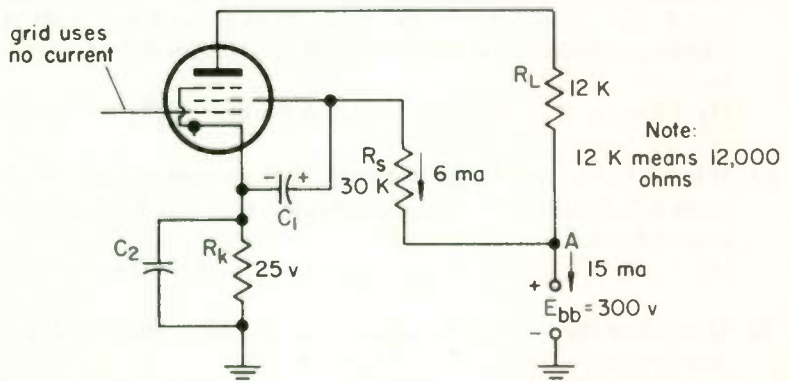

Fig. 46
- (1) that if we start at any point and walk around any path whatsoever until we get back to the starting point, the sum of the voltage rises walked through must equal the sum of the voltage drops walked through.
- (2) the same as (1) above, except that we must always walk in the direction of current flow.
23. We are building the circuit of Fig. 46, and we must know the voltage across C_1 so that we can order a capacitor of suitable voltage rating. We can find this voltage by
24. What is the d-c voltage across capacitor C_1 in Fig. 46?
- (1) 95 volts (3) 180 volts (5) 300 volts
- (2) 120 volts (4) 275 volts
25. What is the plate voltage (voltage between plate and cathode) in Fig. 46?